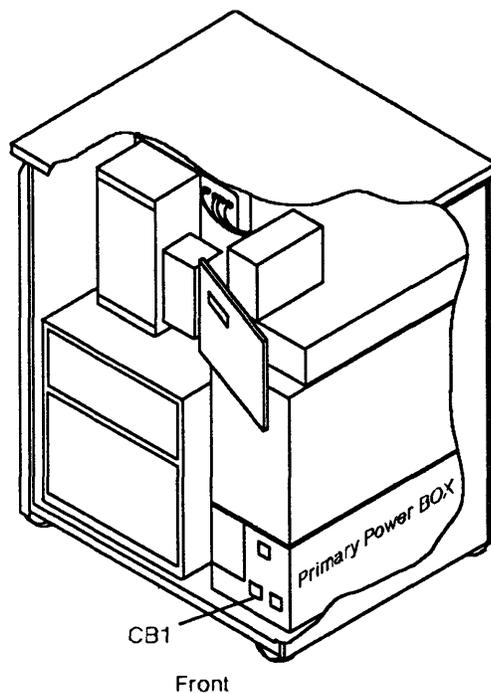
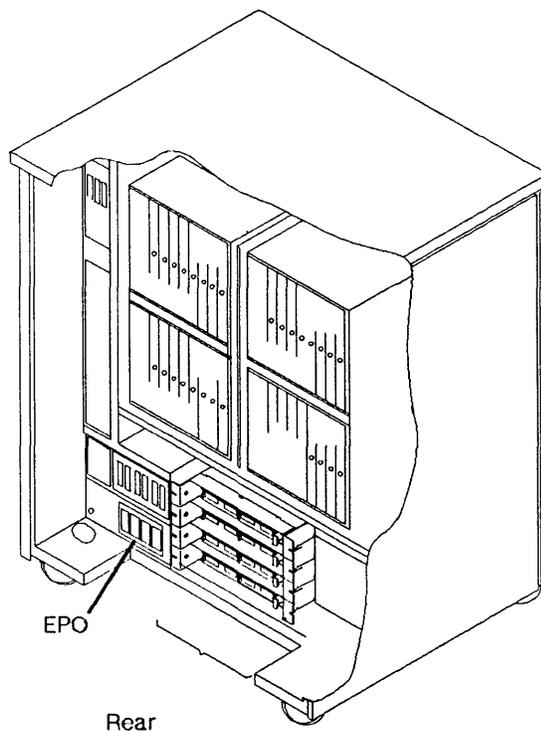

Figure 4-90. Primary Power Box and CB1 Locations
Figure 4-91. EPO Location
4. Switch CB1 OFF. Refer to Figure 4-90.
6. Locate the primary power box and the EPO. Refer to Figure 4-90 and to Figure 4-91.